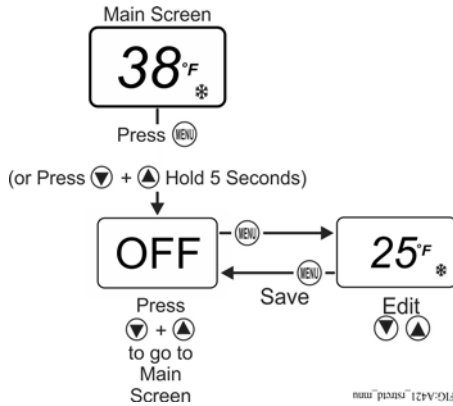

Figure 11: Adjusting Temperature in the Restricted Menu
- The basic and advanced menus are not available. Only the restricted adjustment mode menu is available and only the **OFF** value can be adjusted. See Figure 11.
1. In the Main Screen, press **MENU** to go to the restricted adjustment mode menu and display the **OFF** parameter code screen (Figure 11).